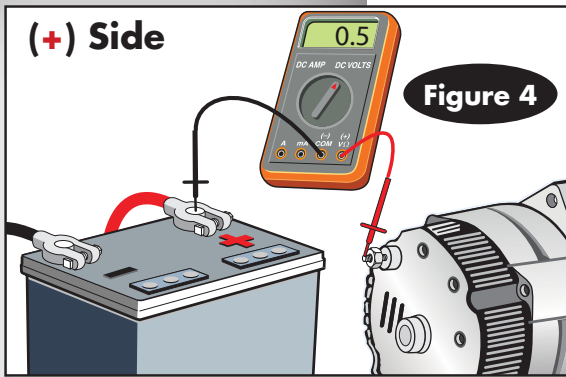

Figure 4
- If volts & amps are below specs, perform tests in Fig. 4 and 5
(+) Side (Figure 4)